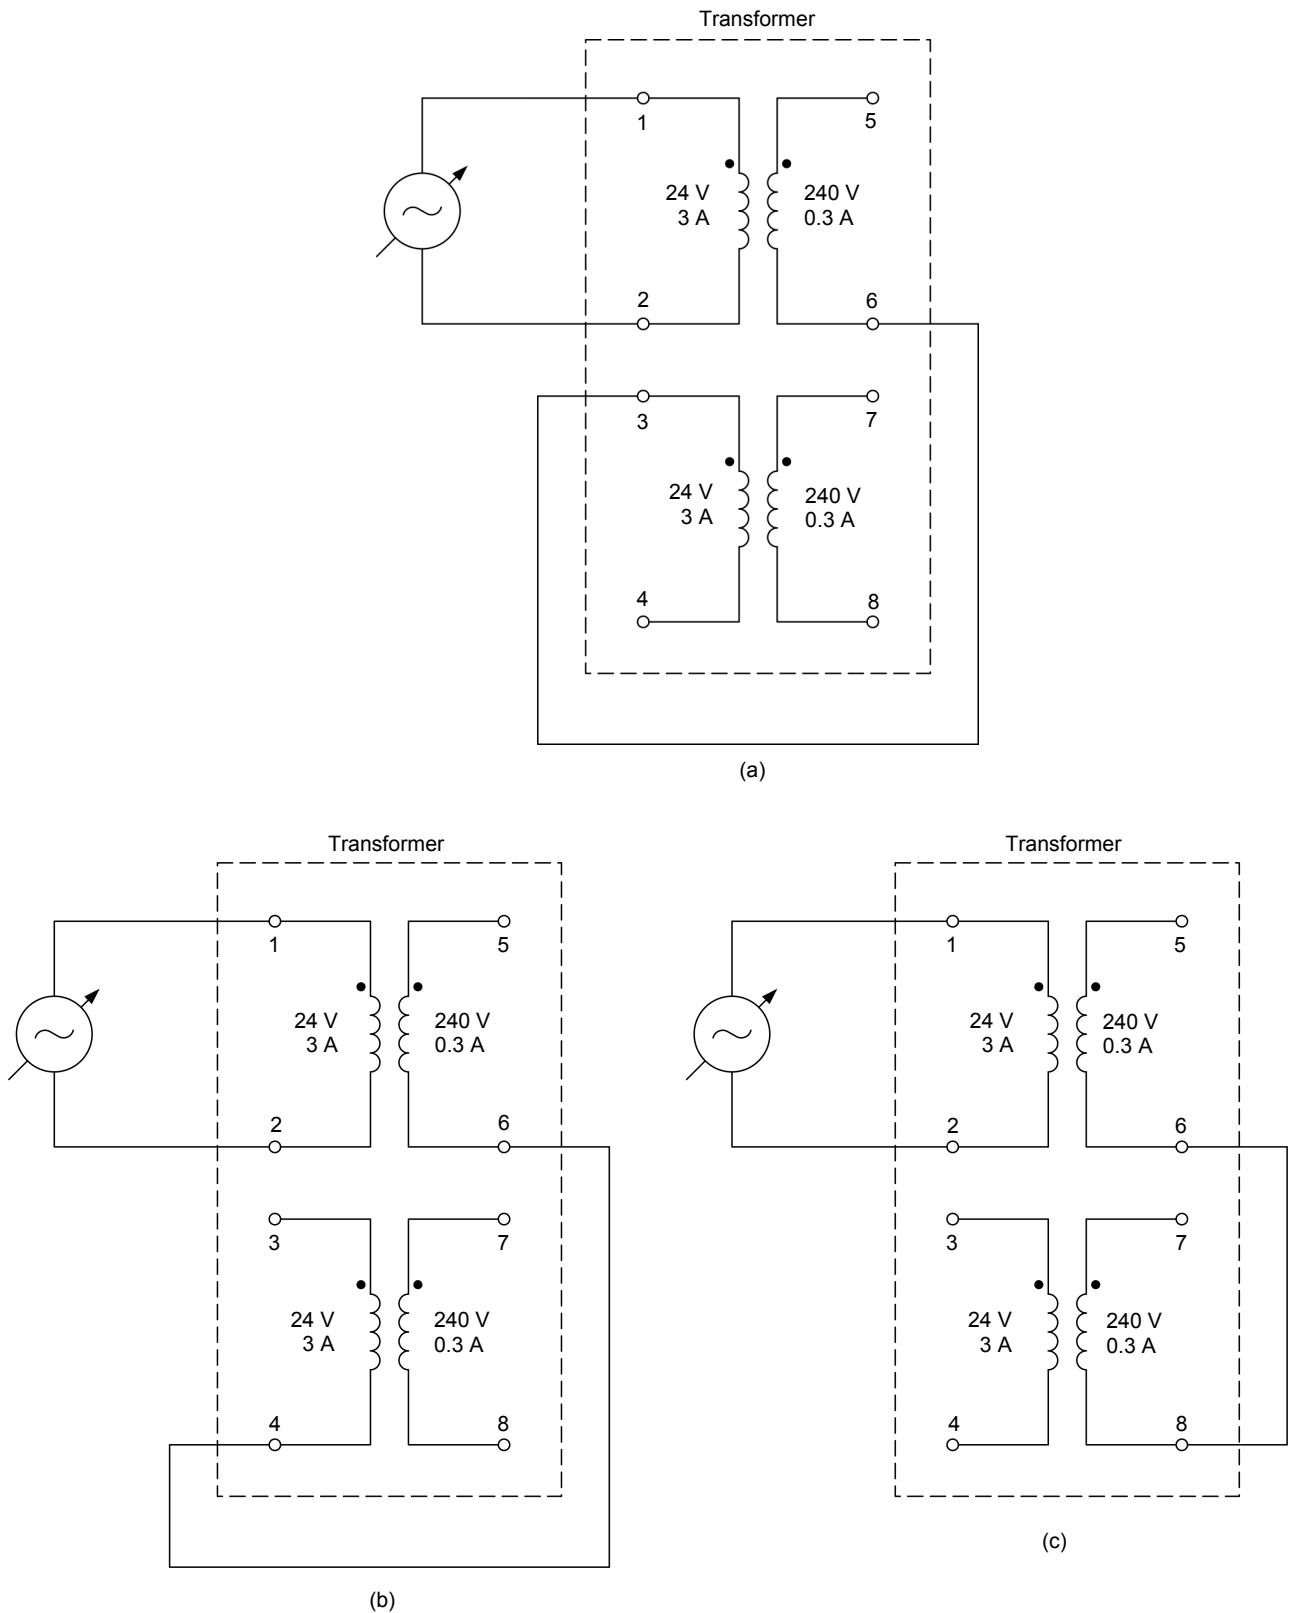

Figure 16. Different series connections of transformer windings.
11. Consider the three transformer winding connections shown in Figure 16. In this figure, winding 1-2 is considered the primary winding of the transformer and is connected to a 24 V ac power source. Determine the voltage that should be induced across each series-connected winding combinations.
In all the transformer connections of Figure 16, the capacity of the transformer is limited to 72 VA, because all power is transferred through primary winding 1-2, which is rated 24 V and 3 A.